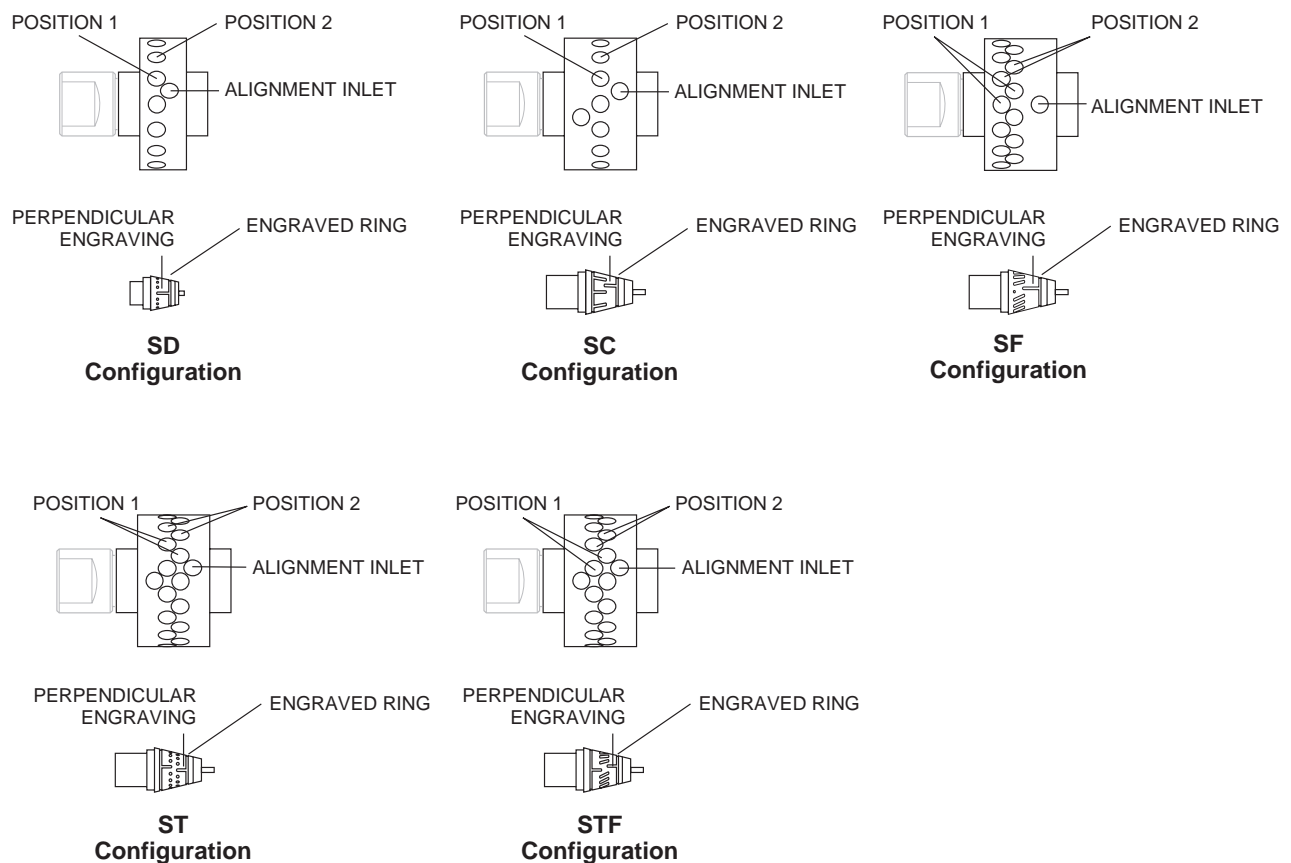

Figure 1:
The valve will have either one (SD and SC) or two (SF, ST, and STF) rows of ports evenly spaced around the circumference of the body. **See Figure 1.** In addition, there will be one (SD and SF) or two (SC, ST, and STF) “common” ports offset to either side of these rows. With the valve close to you and the actuator away, Position 1 falls to the left of or counterclockwise from the common port(s). The rotor will have either one or two flow passages appearing as engraved rings around the seal, which intersect the common port(s). Flow passages perpendicular to the ring(s) connect the ring(s) to the selected port(s).
3. Establish a flow of clean gas (50 psi is adequate) into the port offset toward the actuator. This port, called the alignment inlet in Figure 1, will be the designated inlet throughout this procedure.
4. With the valve closest to you and the actuator away from you, grip the valve and rotate it (the actuator keeps the rotor fixed) until gas flows from the port to the *left* of or counterclockwise from the alignment inlet. This port corresponds to Position 1. (See **Figure 1**)